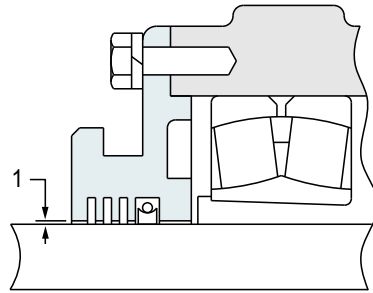

Figure 8-8: Labyrinth Seal Clearance
**Verify all thrower and labyrinth seal clearances.** Failure to do so may result in overheating, damage to the seals, and damage to the bearings. See Figures 8-8 and 8-9.